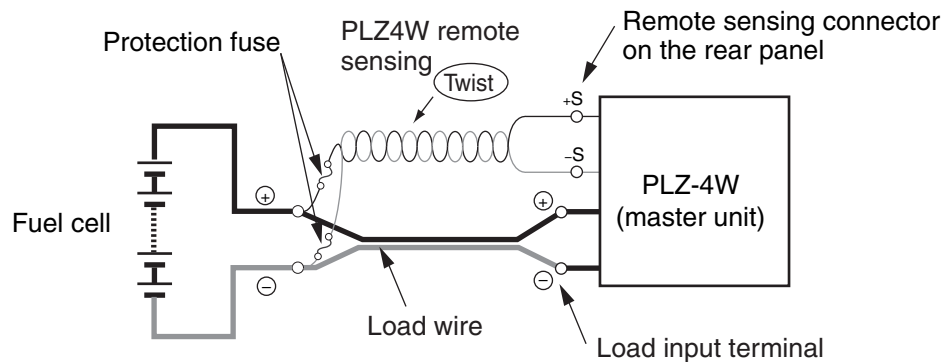

Fig. 2-4 PLZ4W remote sensing wiring
- If the load wire comes loose while using PLZ4W remote sensing, the sensing wire or the PLZ-4W remote sensing circuit may break. Accidents can be prevented by connecting a protection fuse as shown in Figure 2-4. Use a fuse with a rated current of 0.5 A and a rated voltage greater than or equal to the output voltage of the fuel cell under test.